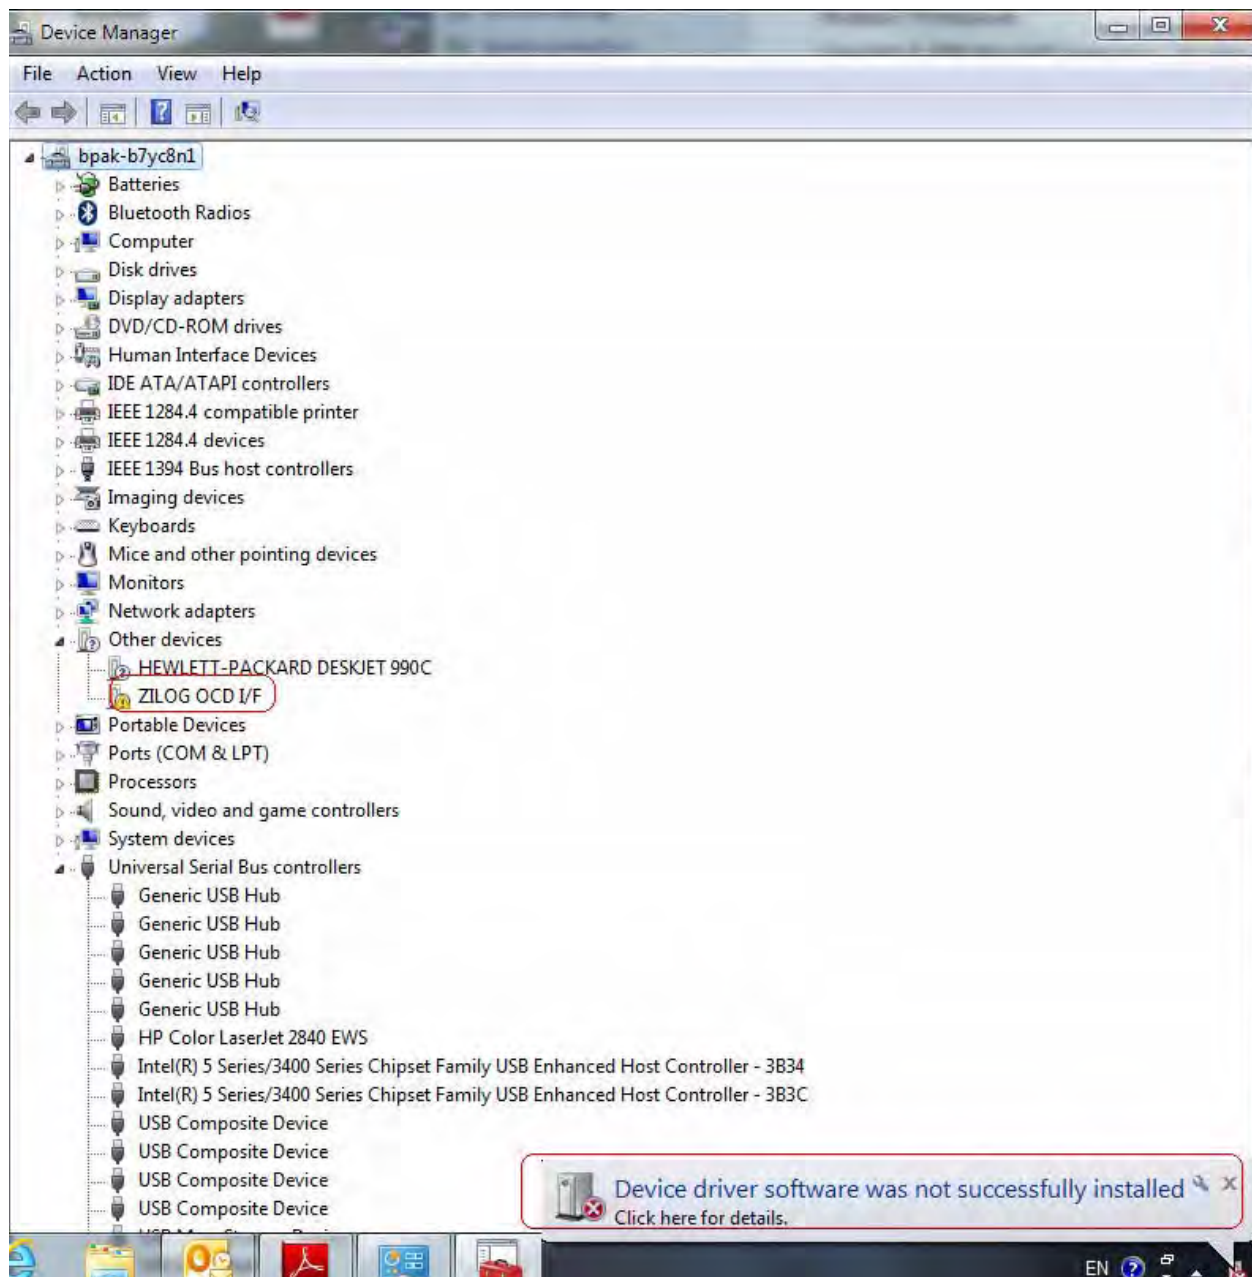
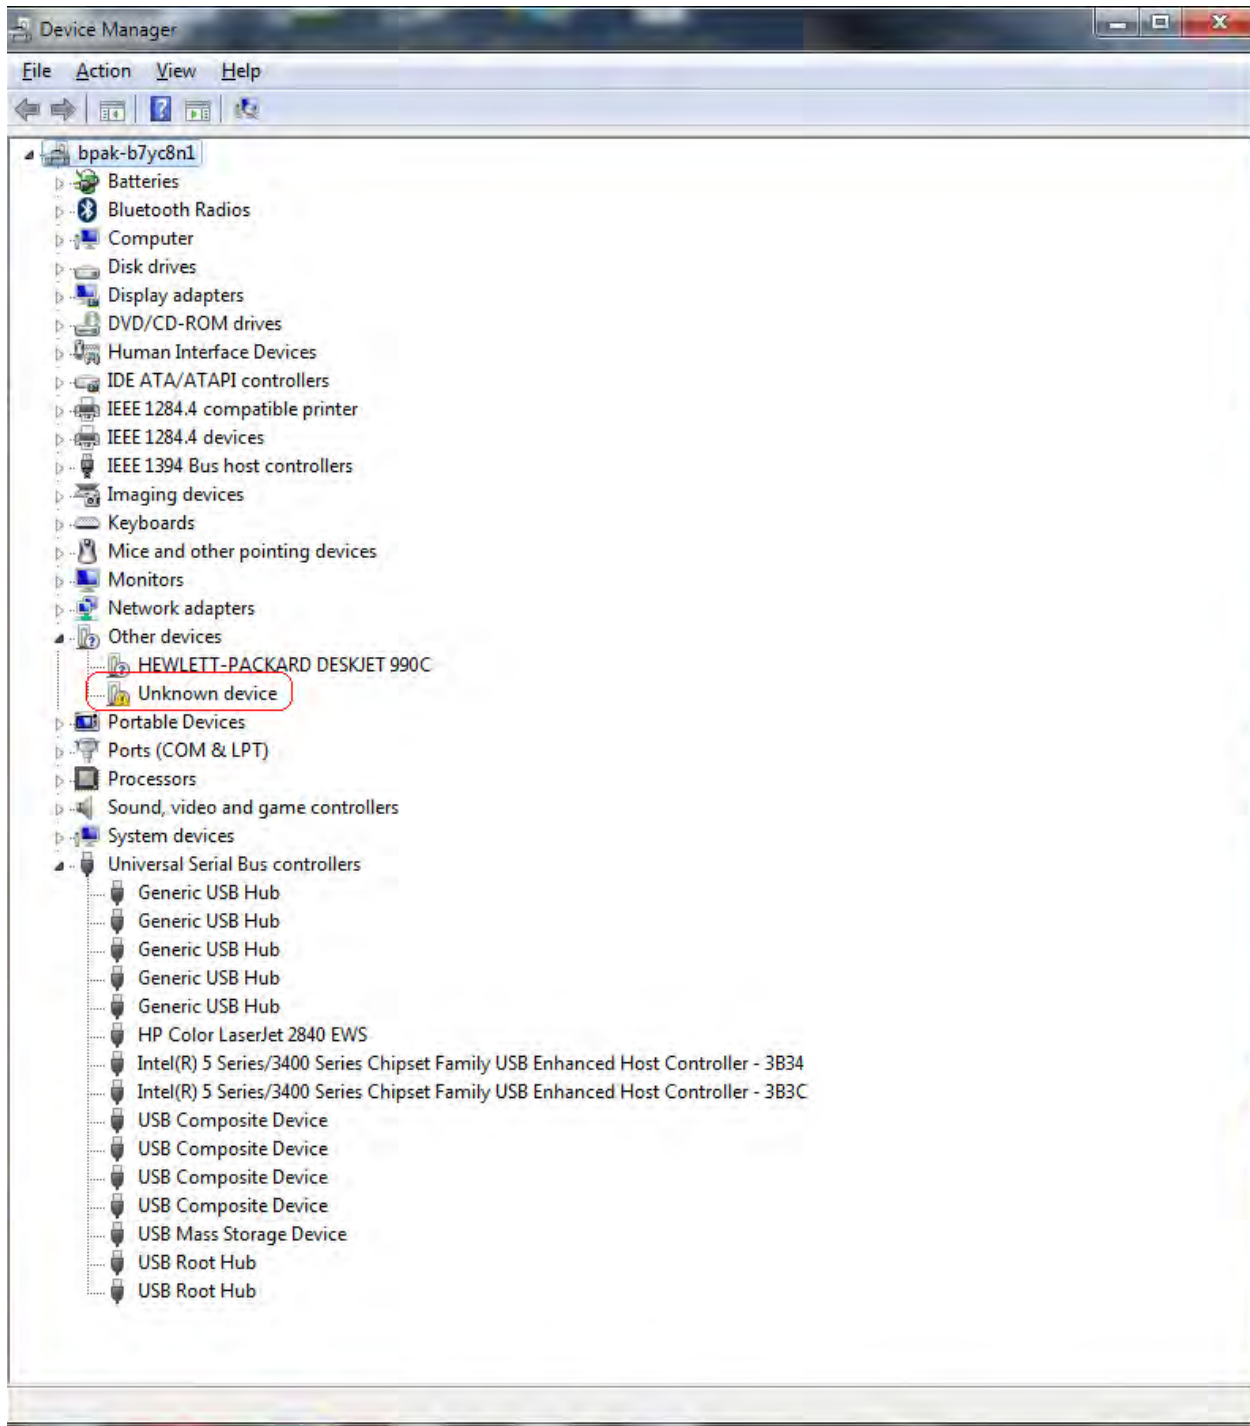

Figure 26. Unsuccessful Installation, Scenario 1
Figure 27. Unsuccessful Installation, Scenario 2
3. If you should encounter the scenarios shown in Figures 26 or 27, right-click your mouse on **ZILOG OCD I/F** (highlighted in Figure 26) or **Unknown device** (highlighted in Figure 27) and select **Update Drive Software...**